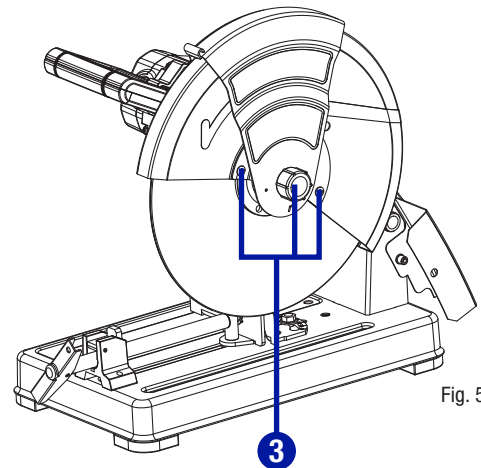

Fig. 5
The lower wheel guard should always rise and fall freely when the machine arm is lowed and raised as outlined above. If not, clean any cuttings out from around the guard mechanism (3). (Fig. 5)